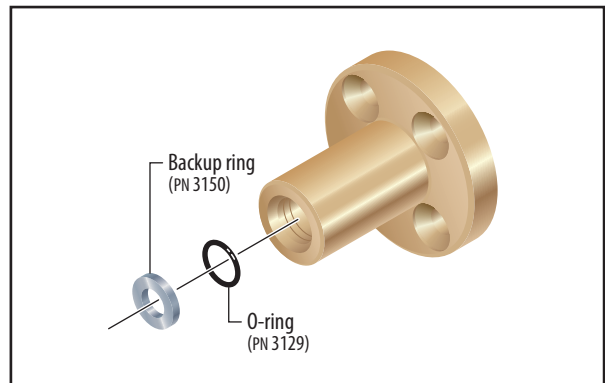

Figure 18
- 23** From the front of the Fine Adjust body, remove the o-ring (PN 3129) and the backup ring (PN 3150) (**figure 18**).